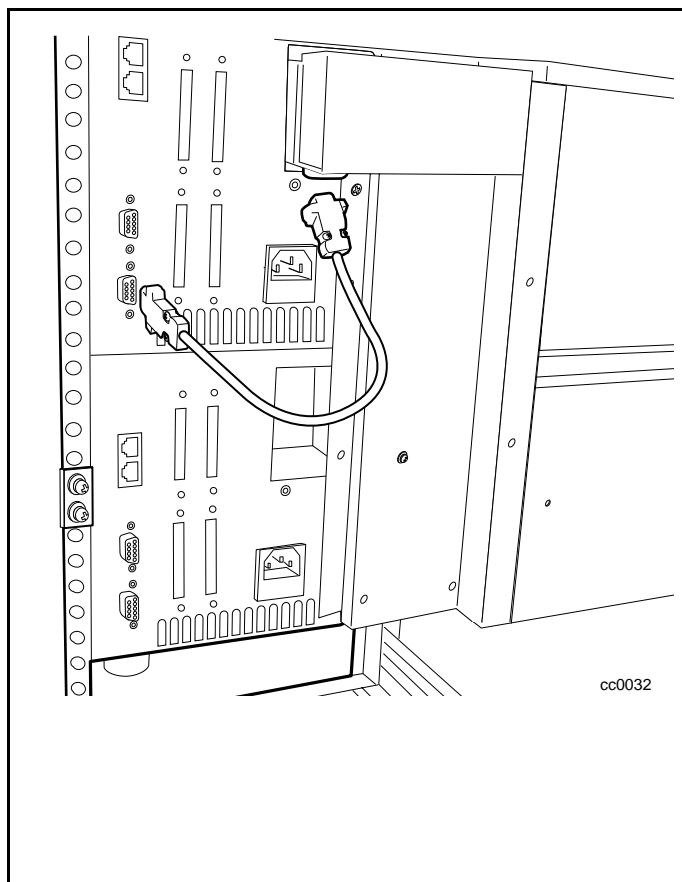

Figure 5-41. Unplugging the PTM motor housing assembly control cable
4. Unplug the motor control cable from the PTM motor housing assembly (see Figure 5-41).
5. If the master unit (top) is to be removed for service, disconnect the motor cable and plug it into the unit directly below it (slave 0). Reconfigure slave 0 to be the master unit and slave 1 to be slave 0, slave 2 to be slave 1, and so forth (see Figure 5-41).